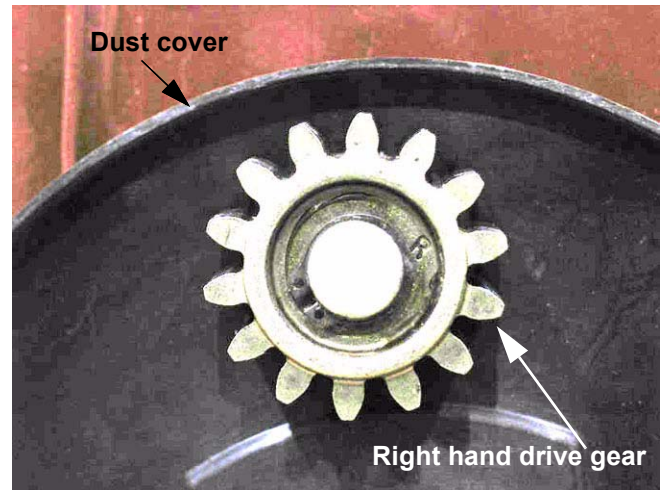

Figure 3.10
- 3.10. Remove retaining ring holding drive gear and dowel pin on axle. See Figure 3.10.